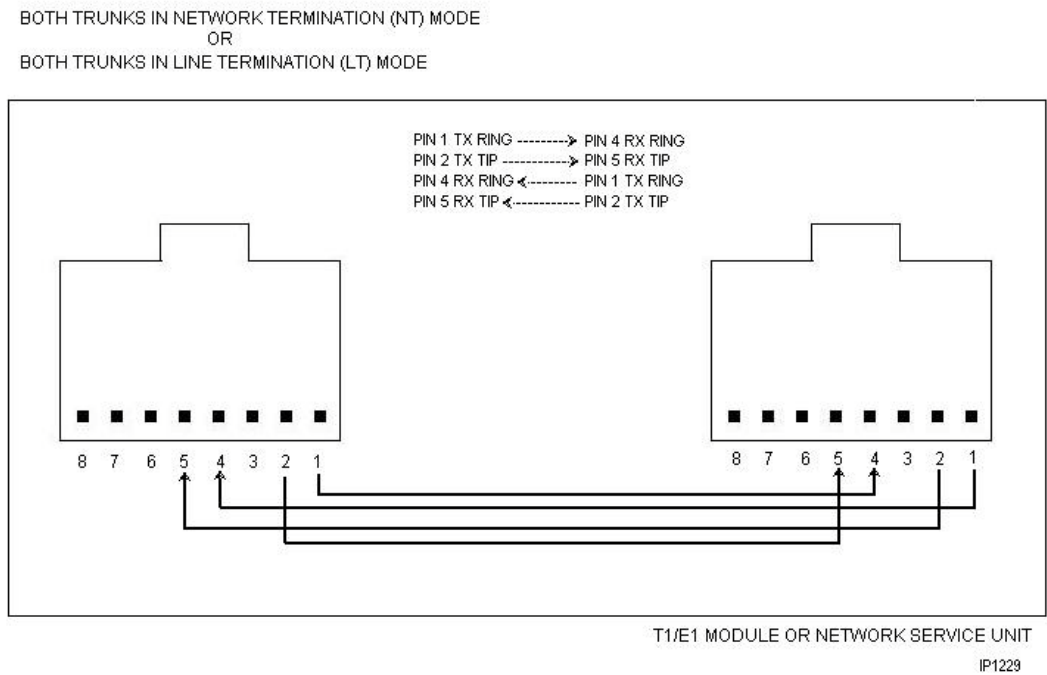

Figure 2: Loopback - T1/E1 Connectors (RJ45) on T1/E1 Module or Network Service Unit
- **Option 1:** Set one trunk in Network Termination (NT) Mode and the other trunk in Line Termination (LT) Mode. You set the line termination mode in the Link Descriptor Assignment forms of the trunks. Then, connect the trunks with a straight-through CAT5 cable.
- **Option 2:** If you want to have both trunks in the same mode, you must wire the T1/E1 trunk connectors together as shown in Figure 2.